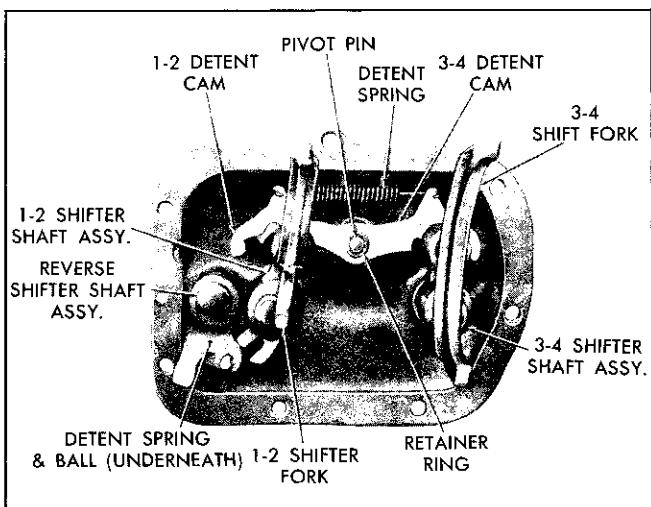

Fig. 7C-3 Side Cover Assy.
5. Pull main drive gear out of case as far as possible and remove front bearing (Fig. 7C-5).